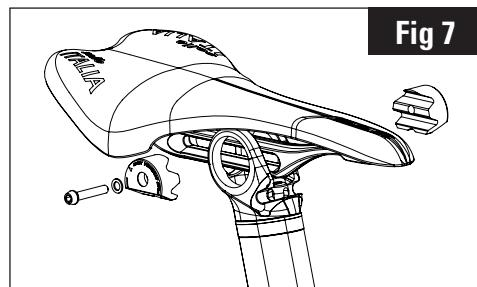

Fig 7
3. Put both upper brackets (12) in place and loosely tighten the screw. (Fig.7)